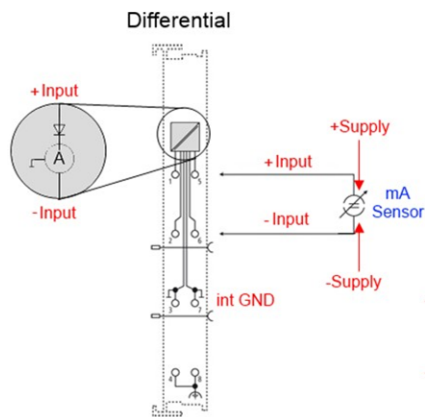

Figure 3-70: Connection of externally supplied sensors
- 3- and 4-wire connection see Figure 3-70: Connection of externally supplied sensors, cf. IEC60381-1